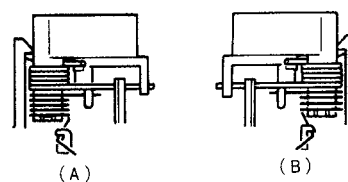

Fig. 7-22
3. For reengage the spring, see Fig. 7-22 (A) and (B).